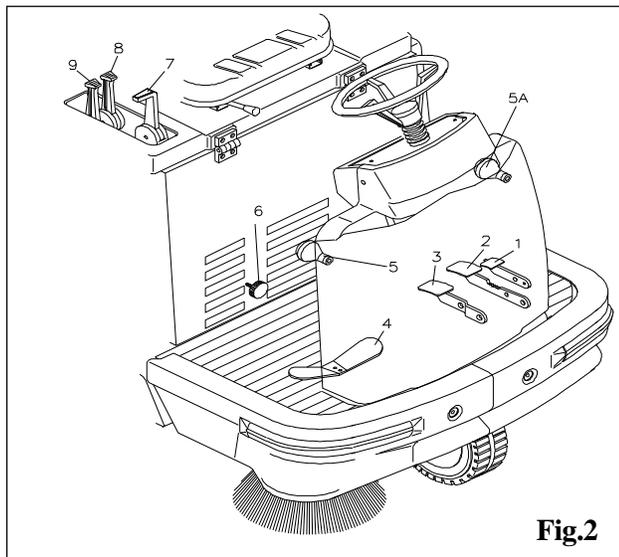
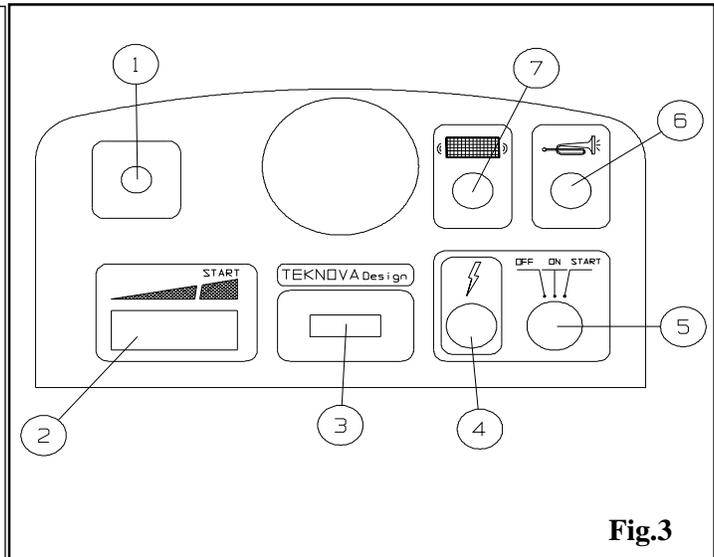

Fig.2
Fig.3
- 1: Place the brush-rising lever **5 / 5A Fig.2** on the **OFF** position.
- Take the accelerator lever **2 Fig. 3** on the **START** position.
- Pull the starter lever **1 Fig.3**.
- Bring the clutch lever **9 Fig.2** in **1-START POSITION** and keep it in this position while activating the key switch **5 Fig.3**.
As soon as the engine starts, release the clutch lever **9 Fig.2**
Acting on the direction-selecting pedal **4 Fig.2** the machine starts moving.
After having started the machine following the instructions of the previous paragraph, go on as described according to one's needs, lower the central brush bringing the proper lever **7 Fig.2** in **ON** position.
Lower, if necessary the side brush (or both in the double side brush version) acting on the control levers **5-5A Fig.2**.
Should the brushes raise some dust during the work, it is advisable to turn the sucking on by means of the lever **8 Fig.2**
If some bulky and light items are to be picked up, act on the flaplifting pedal **3 Fig.2**. Keep the pedal pressed down just for the time necessary to do this operation.
To turn the machine **OFF** bring the lever **2 Fig.3** in the min. pos. and turn the key **5 Fig.3** on **OFF**. It is advisable, always to work with the highest number of rpm. (lever **2 Fig.3**)
This instrument is simple to use and allows you to keep the filter in perfect working order. To operate the shaker, push down the switch (7, fig. 3) and hold it down for a few seconds. Repeat the operation **4 or 5 times**. Remember that the cleaner the filter, the better the results. This operation should be carried out after every work cycle.
Before carrying out every operation on the machine, make sure that this last be switched off and that all of its functions be deactivated, to get to this state, set the key switch 5 Fig.3 in the **OFF** position. In order to attain to a more thorough cleaning it is advised to proceed as follows in addition to the use of the filter-shaker: